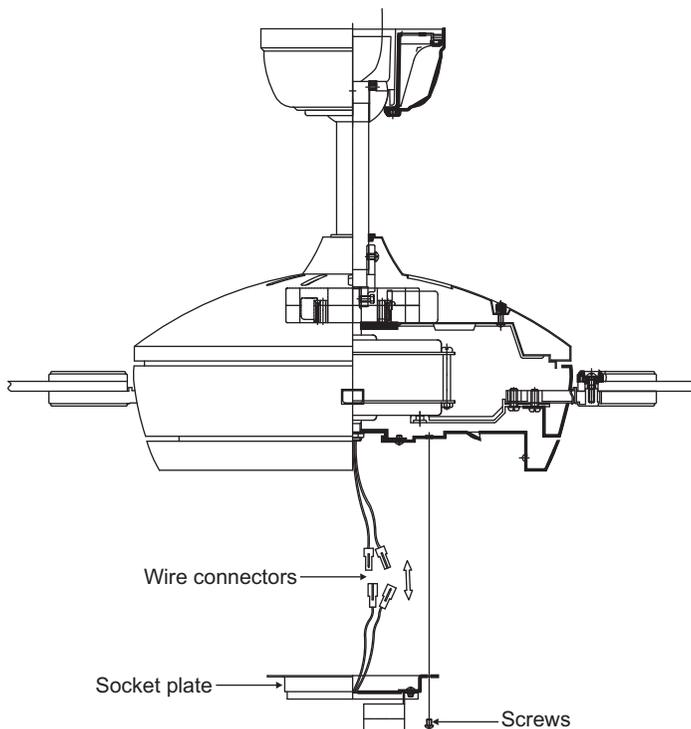

Fig. 17
Step 2. Hold the Lamp Socket Plate close to the light plate and connect the white wires from the socket plate and the fan by pushing the connectors together. Follow the same procedure with the black wires. (Fig. 17)
Step 3. Tuck the connections neatly into the light plate. Place the key holes on the socket plate over the 2 screws previously loosened from the light plate, turn the socket plate until it locks in place at the narrow section of the key holes. Secure by tightening all three screws. (Fig. 17)